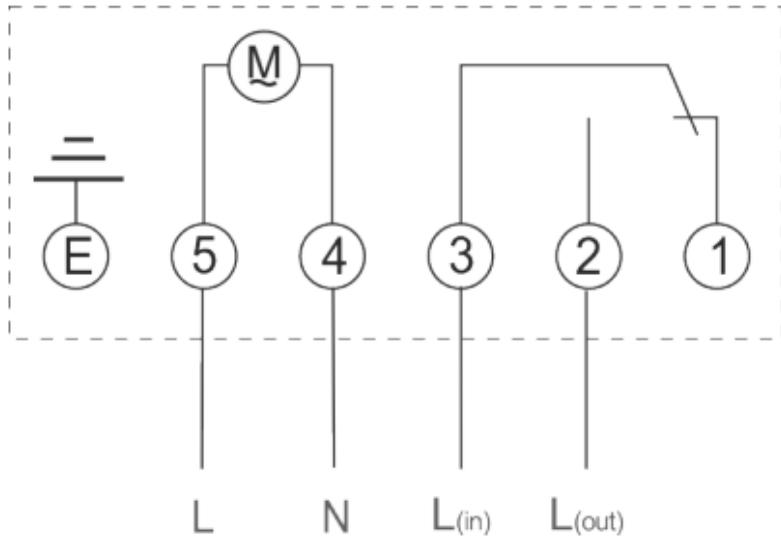

Fig. 5: BG1S/BG7S voltage-free connection
11. Insert the connection wires into the corresponding terminals in accordance with the relevant wiring diagram (A = application/connected load; S = supply voltage; N = neutral conductor; L = live conductor) (Fig. 5).